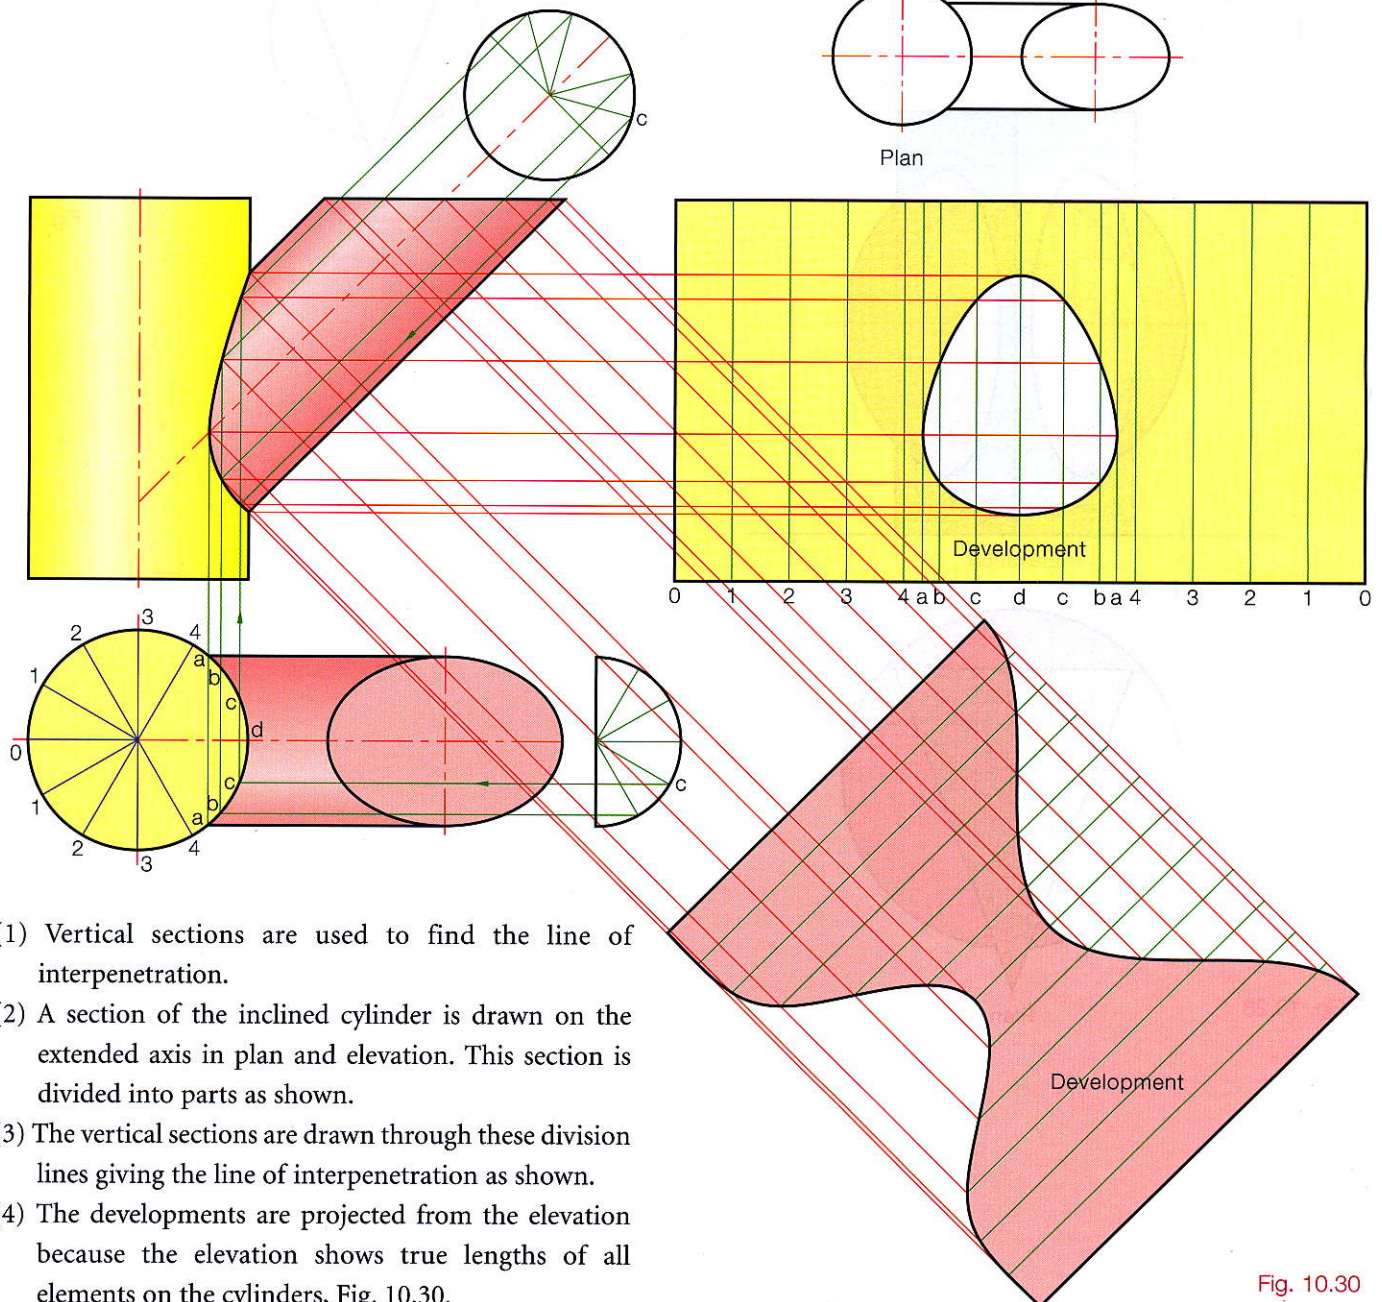

Fig. 10.30
- (1) Vertical sections are used to find the line of interpenetration.
- (2) A section of the inclined cylinder is drawn on the extended axis in plan and elevation. This section is divided into parts as shown.
- (3) The vertical sections are drawn through these division lines giving the line of interpenetration as shown.
- (4) The developments are projected from the elevation because the elevation shows true lengths of all elements on the cylinders, Fig. 10.30.